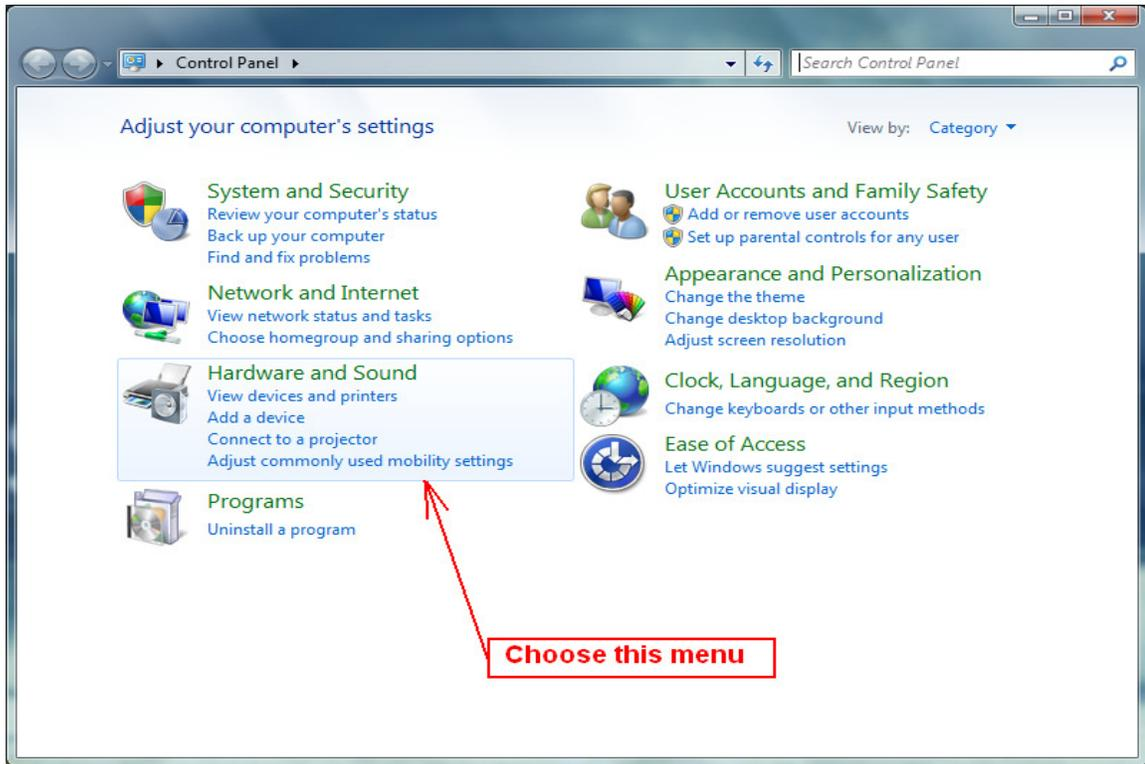

Figure 13 “Control Panel” window
- In "Control Panel" choose "Hardware and Sound" menu (see **Figure 13**).